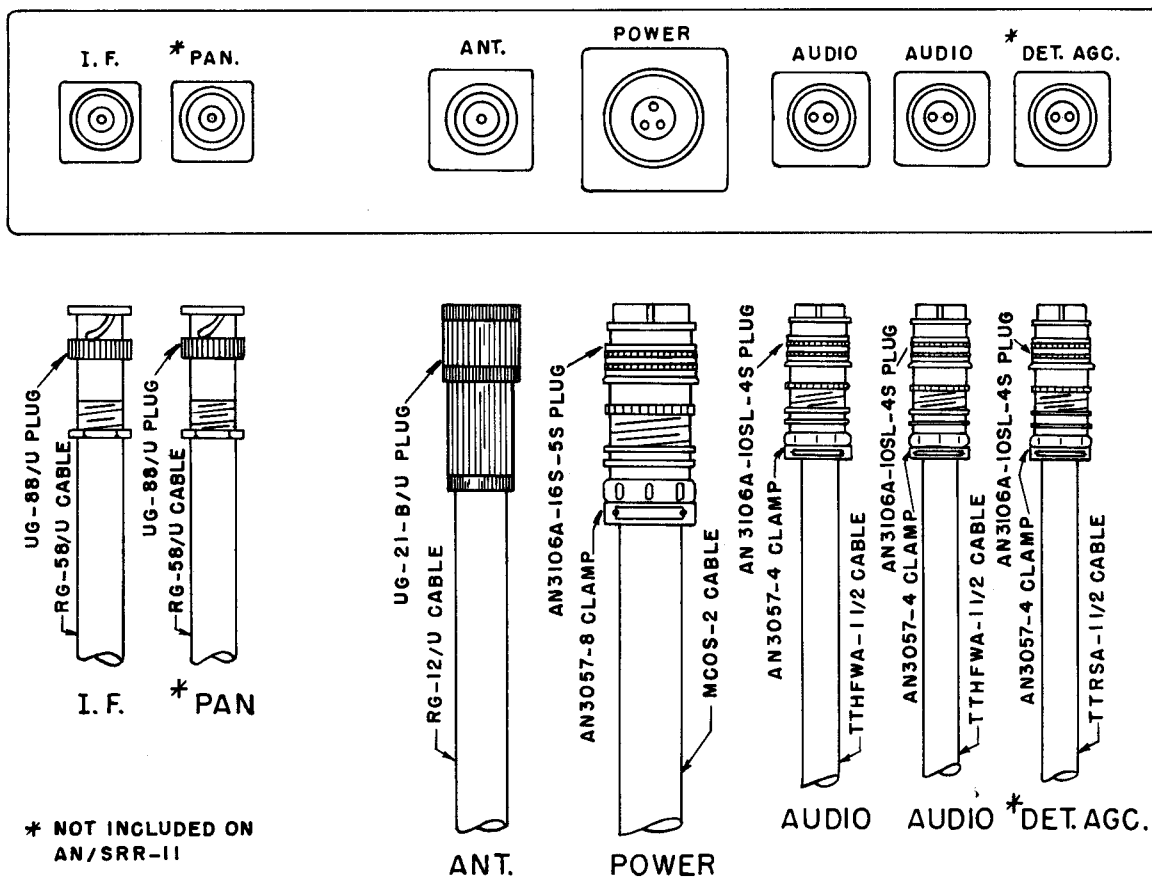

Figure 3-3. External Cabling Diagram
d. CABLING.—Cables must be run to appropriate receptacles at the back of the receiver to complete installation. See figures 3-3 and 3-13. In a standard installation, these cables will include the power line, antenna lead, and one or two audio cables. Receptacles have been provided for use with a panoramic adapter and frequency shift converter of either the i-f or audio type. A receptacle labeled DET. AGC has been provided on the AN/SRR-12 and -13 receivers for diversity application. Table 3-1 lists cable connectors and functions.
e. CABLE FABRICATION.—Receptacles are provided at the rear of the receiver and are labeled I.F., PAN, ANT., POWER, AUDIO, and DET. AGC. These are shown in figure 3-3 together with their external mating connectors and related cables. The connectors are provided in a paper container packed with the receiver. These connectors are shown in figure 1-1. The tools needed for fabrication of cables to these connectors are a pair of long nose pliers, a pair of diagonal pliers, a screwdriver (4-inch blade), a soldering iron, solder, and a small knife. Instructions for fabricating cable to plug is as follows:
f. EXTERNAL CONNECTIONS.—As stated in paragraph 2d, the intended application of the equipment will determine what particular cables are to be used. The cables having been fabricated as set forth in the preceding paragraph 2e, connect them as described below and as shown in figure 3-3, in accordance with the contemplated installation requirement.
(1) **NORMAL INSTALLATION.**—An antenna cable, a power cable, and one or two audio output cables are required. Fabrication of these cables is described in paragraphs 2e(3), 2e(4), and 2e(5) respectively.